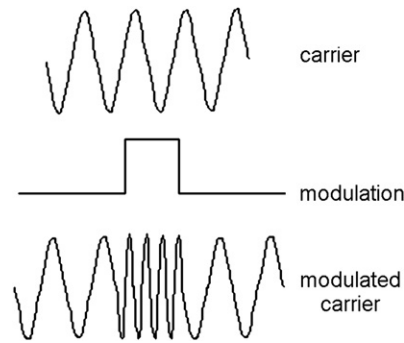

Figure 6.7:
A way of getting around these problems had been devised by an inventor who, of all that ill-treated fraternity, was the least fortunate. Edwin Armstrong developed **frequency modulation** (FM) to eliminate the effects of interference, both artificial and natural, and built a radio station (now a working museum) in the Catskill mountains just outside New York to prove the point. As the name suggests, the low-frequency audio signal is carried by altering the **frequency** of the radio signal (Figure 6.7), with the amplitude kept constant. Since interference of all types only alters the amplitude of radio waves, FM can be virtually free from interference unless it is